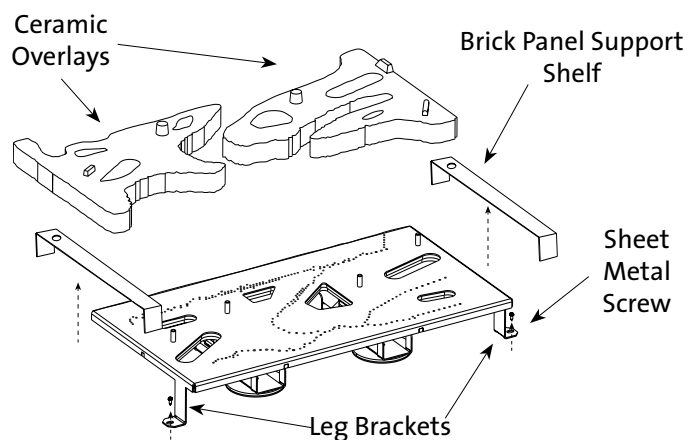

Figure 6.2. Remove Ceramic Overlays. Remove the Leg Bracket screws. Pull the Burner assembly forward and up to disengage it from firebox.
5. Lift the Brick Panel Support Shelves from the firebox floor to access and remove two #8x 1/2" sheet metal screws that secure the two Burner Brackets to the floor. See fig. 6.2.
6. **Carefully remove Ceramic Overlays.** Grasp the burner at the sides and pull the assembly forward and up to disengage it from the burner injectors. Tilt the assembly to fit through the door opening, being carefull to avoid contact with enamel surfaces. See fig 6.2.